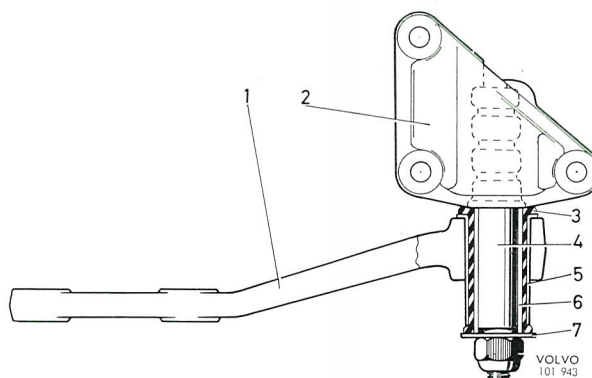

Fig. 6-49. Relay arm bearing
3. Remove the nut and washer (7, Fig. 6-49) and take down the relay arm (1).